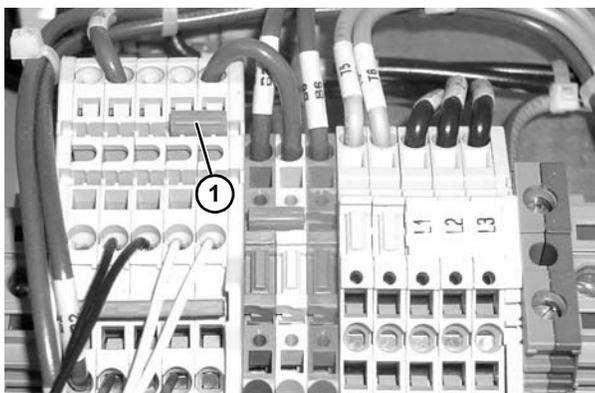

**Figure 51**
2. Connect push button to user selectable port (**Figure 51, item 1**).